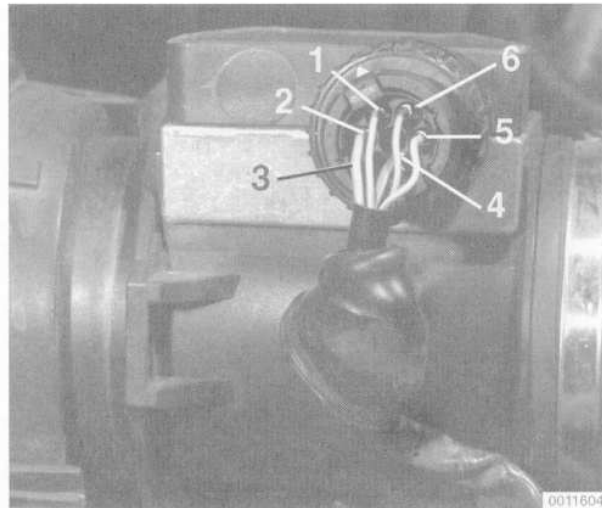

Fig. 12. Mass air flow sensor terminal identification on cars with DME 3.1. Connect voltmeter across terminals 1 (+) and 4 (-) to check meter burn-off voltage.
- Reinstall the air flow sensor and the harness connector. Peel back the rubber boot from the harness connector. Working from the rear of the connector, connect a digital voltmeter across terminals 1 and 4. See Fig. 12.